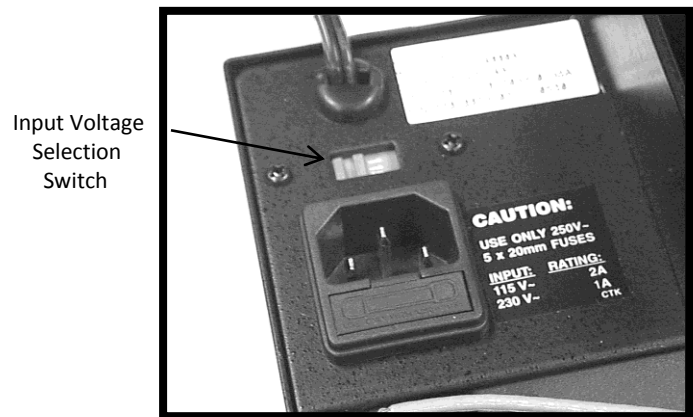

Figure 10: Battery Charger Input Voltage Selection Switch (battery charger shown removed from gurney for clarity)
5. Move the input voltage selection switch (Figure 10) to 115 or 230 as needed.